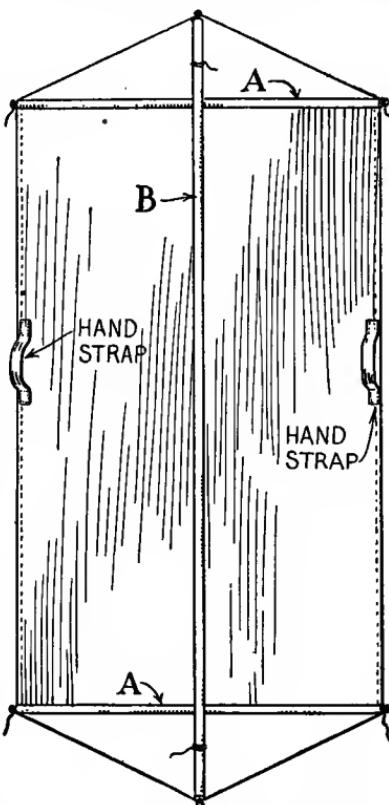

FIG. 577.—A Square Roller-Skate Sail.
The Square Sail illustrated in Fig. 577 is 3 feet wide and 5 feet long. Cut the top and bottom spars *A* 3 feet long, and the center spreader *B* 6 feet 6 inches long. Almost any light-weight closely woven cloth that you can find will do for
**The Sail Cloth** edges that haven't a *selvage* should be hemmed, and the corner which is fastened to spreader *D* should be reënforced with a piece of cloth as indicated by dotted lines in Fig. 580. The sail may be tacked along spar *C* in the same way that the sail in Fig. 577 is fastened, or it may be *lashed* to the spar like regular sails are lashed (Fig. 580). For lashing the sail, you must either set in metal *eyelets* along the edge of the sail for *tapes* to run through, or sew tapes directly to the cloth. In either case that edge of the sail must be reënforced by sewing a strong piece to it (Fig. 582). To the point of the sail which fastens to the spreader, sew a buckle (Fig. 582). Then the sail can be pulled taut and be buckled to a strap on the spreader. If you cannot find a buckle, you can fasten a rope to the corner of the sail, instead, and tie it to a nail driven into the end of the spreader, which will serve the purpose if you tie a knot that will not slip and yet be easy to untie.